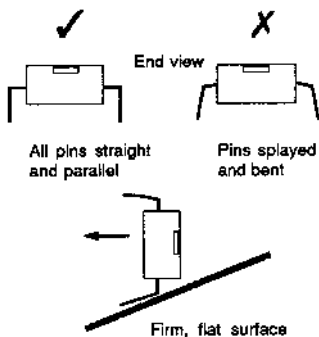

Figure 4: Correcting pin alignment
- 2 Check that all pins on the ROMs are parallel and straight. If any appear crooked or splayed, you will need to realign them. Hold the chip sideways on and press the pins on one side gently against a firm flat surface (see Figure 4). Straighten the other row of pins if necessary.